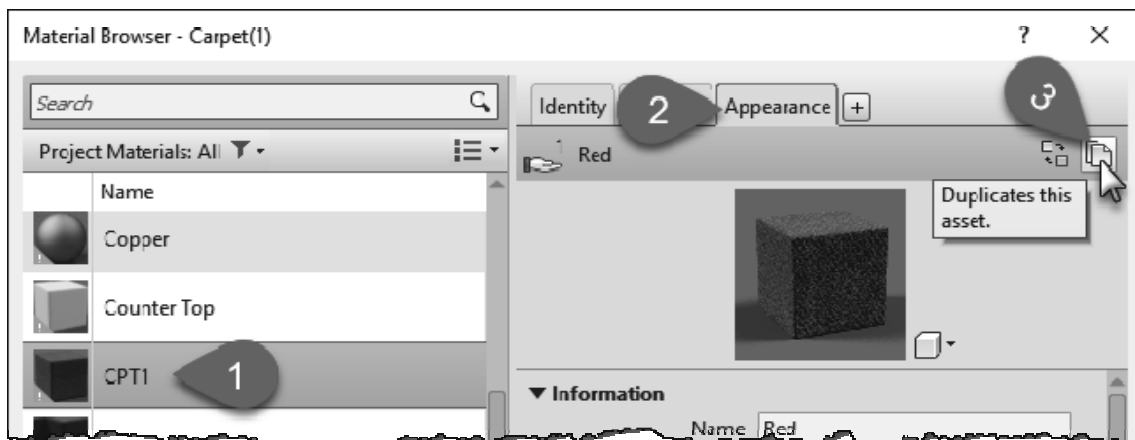

FIGURE 4-3.8 Duplicating an appearance asset
Notice, on the *Appearance* tab (Figure 4-3.8), that a PNG raster image is assigned to this material. You will download an image from the carpet manufacturer’s website and then edit your *Material* to use this new image. Keep in mind that anyone who might work on the project needs access to the image file location. So, in an office environment, you would not want to save this file to your local hard drive.
18. Back in Revit, on the *Appearance* tab, click the **Duplicate this asset** icon (Figure. 4-3.8).